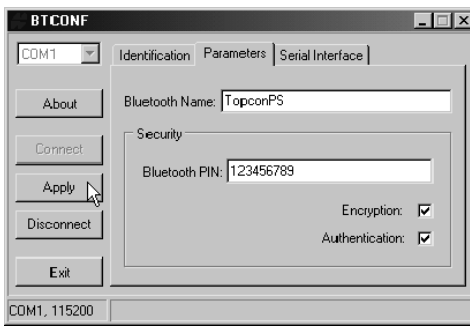

Figure 3-14. BTCONF Security Parameters
7. Apply security (Figure 3-14 on page 3-18) parameters as needed. Click **Apply**.